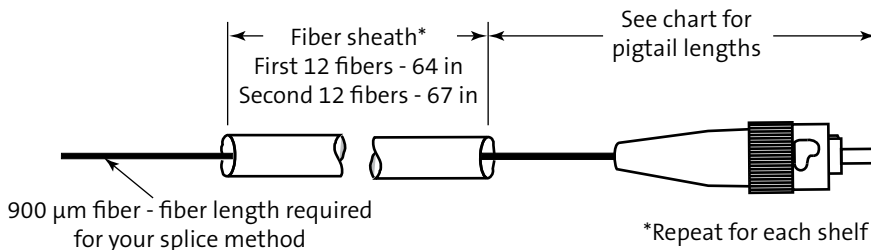

Figure 9
Endcaps are installed on the end of frame lineups to finish out the lineup and protect the exposed jumpers. The endcaps mount to the frame through the interbay spacer (Figure 9).
Step 1: Strip cables to the lengths illustrated in Figure 9.